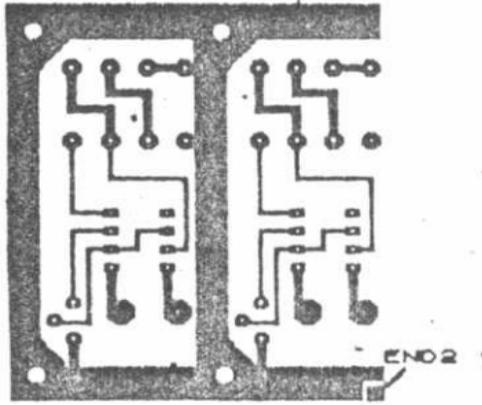

Figure 8.
The layout now appears as figure 8 below:
- (iv) Move the cursor to position END 2 of your layout, shown in figure 8 overleaf, and press ENTER.